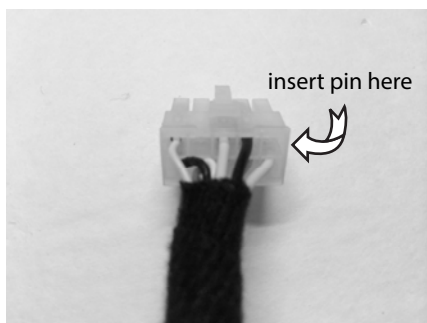

Figure 1
3. Insert green wire with pin to Main Harness (See figure 1)